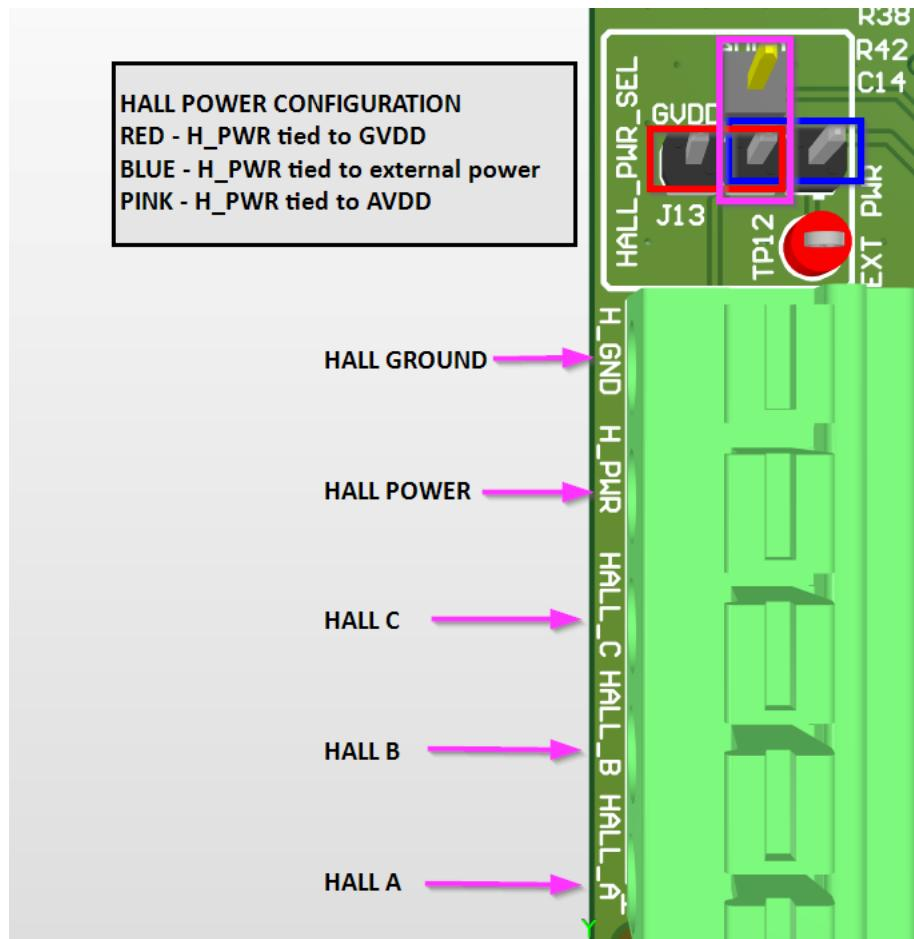

Figure 2-4. DRV8376EVM Hall Configuration
4. For sensored applications, connect the hall sensors to the appropriate locations on the 5-pin connector as shown in Figure 2-4. Make sure the hall power has been configured according to Figure 2-4.
The connections that need to be made to the Hall terminal block are shown in Figure 2-4. The figure also shows how to configure the hall power. For externally supplied hall power, supply the power to TP12 and make sure there is a jumper where the blue rectangle is, as seen in the figure above.